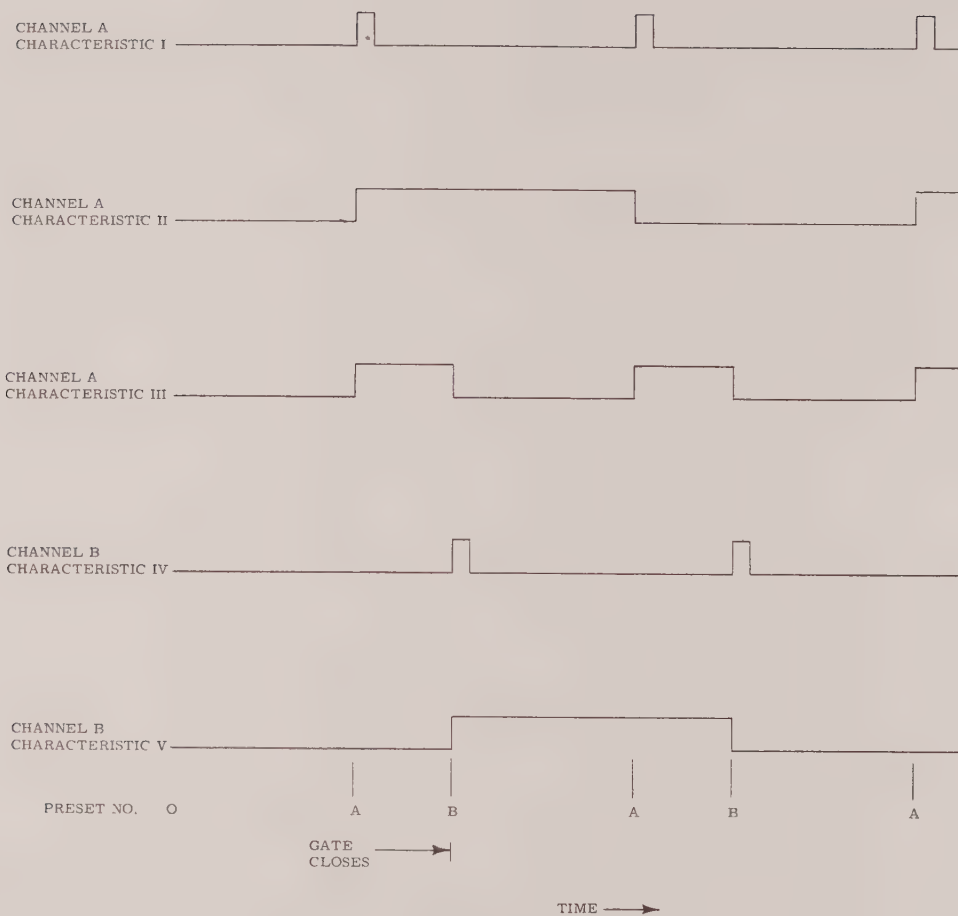

**Figure 2 Output Characteristics**
6. Preset the lower number in row A of switches and select type of output desired for this channel; PULSE, PULSE-RELAY, or HOLD-RELAY (see Table 1 and Figure 2).
Note: Figure 2 shows output characteristics